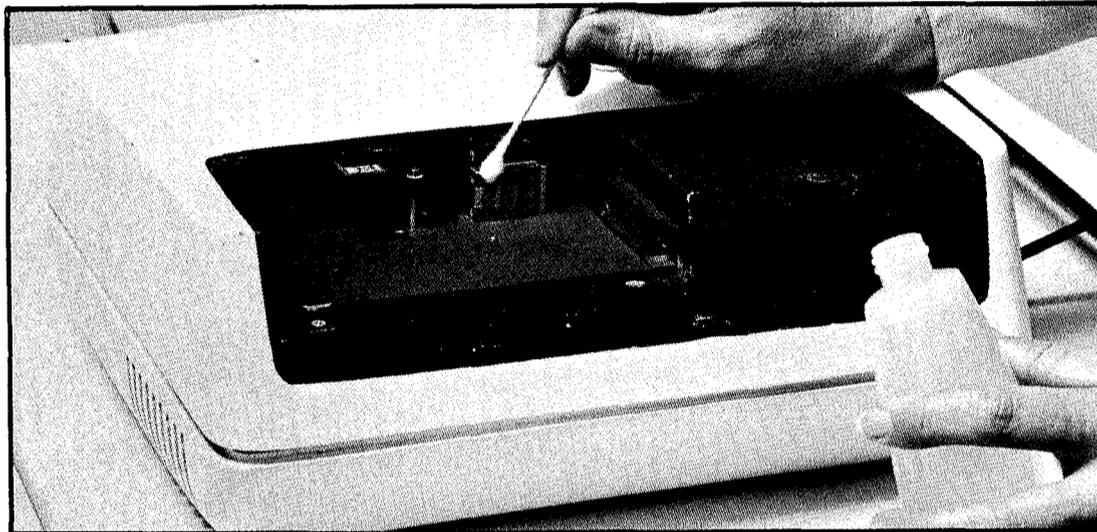

Figure 37. *Cleaning head surfaces*
4. Clean head surfaces, including the erase head surface. Use a dry, clean, lint-free cloth to remove all cleaner residue and thoroughly dry surfaces (Figure 37).